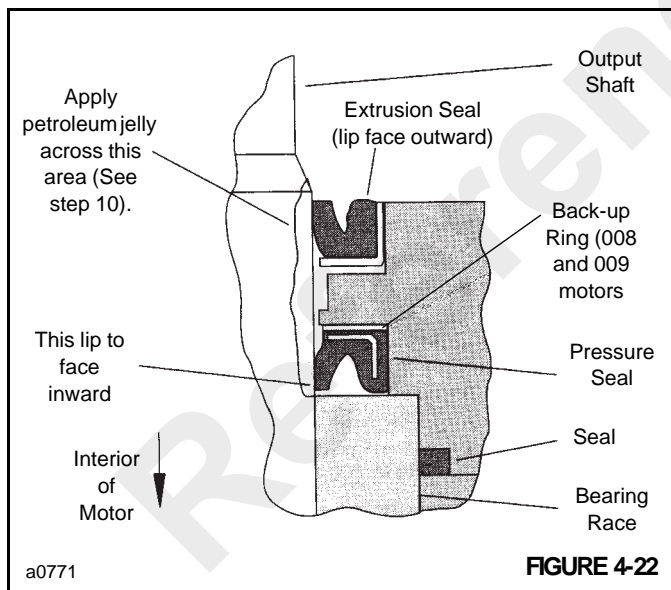

FIGURE 4-22
- Before installing the flange and seal assembly over shaft (9) Figure 4-14, place a protective sleeve or bullet over the shaft. Then lubricate the space between exclusion seal (2) and pressure seal (5), as well as the lips of both seals Figure 4-22.